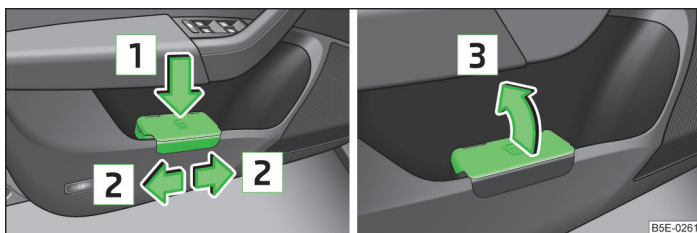

Fig. 67 Waste container / open waste container
- Push the waste container to the back in the direction of the arrow » Fig. 67.
- Remove the waste container in the opposite direction to the arrow » Fig. 67.
- Open the waste container in the direction of the arrow » Fig. 67.